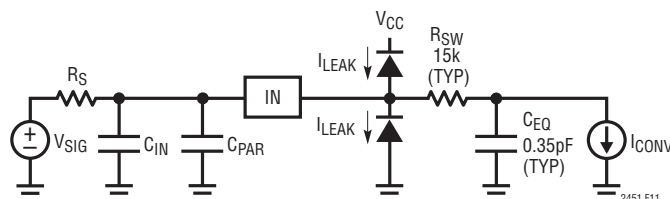

Figure 11. LTC2451 Input Drive Equivalent Circuit
The input drive requirements can best be analyzed using the equivalent circuit of Figure 11. The input signal,  $V_{SIG}$ , is connected to the ADC input pin (IN) through an equivalent source resistance  $R_S$ . This resistor includes both the actual generator source resistance and any additional optional resistors connected to the input pin. An optional input capacitor,  $C_{IN}$ , is also connected between the ADC input pin and GND. This capacitor is placed in parallel with the ADC input parasitic capacitance,  $C_{PAR}$ . Depending on the PCB layout,  $C_{PAR}$  has typical values between 2pF and 15pF. In addition, the equivalent circuit of Figure 11 includes the converter equivalent internal resistor,  $R_{SW}$ , and sampling capacitor,  $C_{EQ}$ .